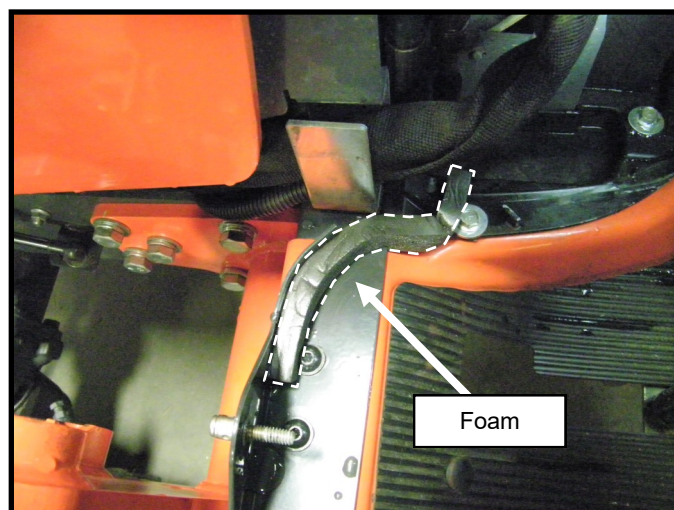

Figure 49: Foam Installation
49. Install a 7" piece of foam (see the white dashed lines in photo) to the top of the floorboard and route it down under where the air intake screen will sit as in Figure 49, repeat for the right side.